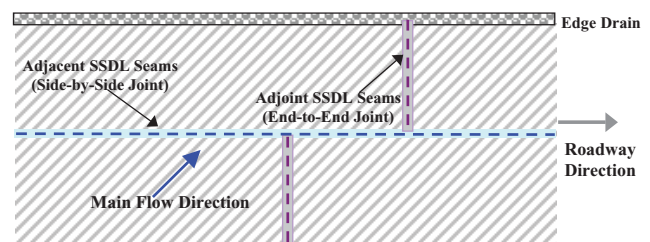

Figure 1 SSDL Panel Layout
1. The SSDL rolls shall be placed along roadway direction, with the main flow direction orientated down slope towards roadway edge drain, as shown in Figure 1.